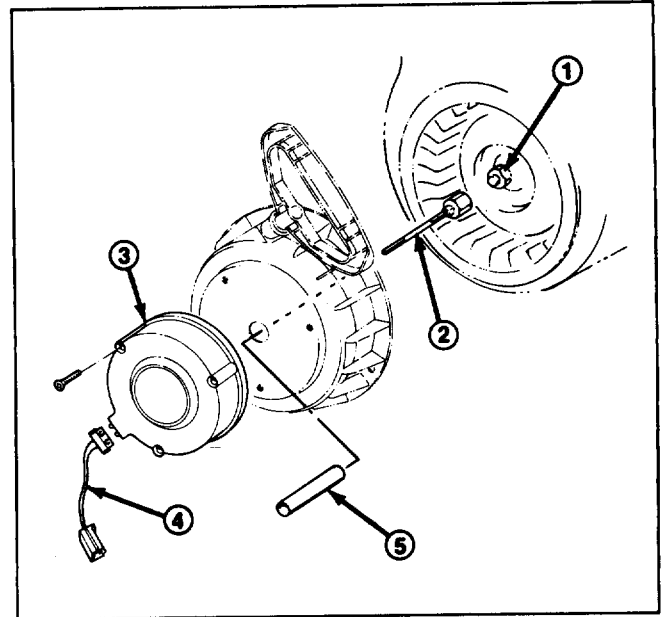

Figure 4
4. Locate depressed drill starts (3) in front side of housing (Fig. 4).
5. Using caution not to hit recoil pulley under housing, drill (3) 1/8" dia. holes through housing. Remove all debris after drilling.
6. Kit is supplied with (2) different alternator shafts. Use the longer shaft on snowthrower models 38540, 38543 or 38573 (see step 7). On models 38510 and 38513 use the short shaft.